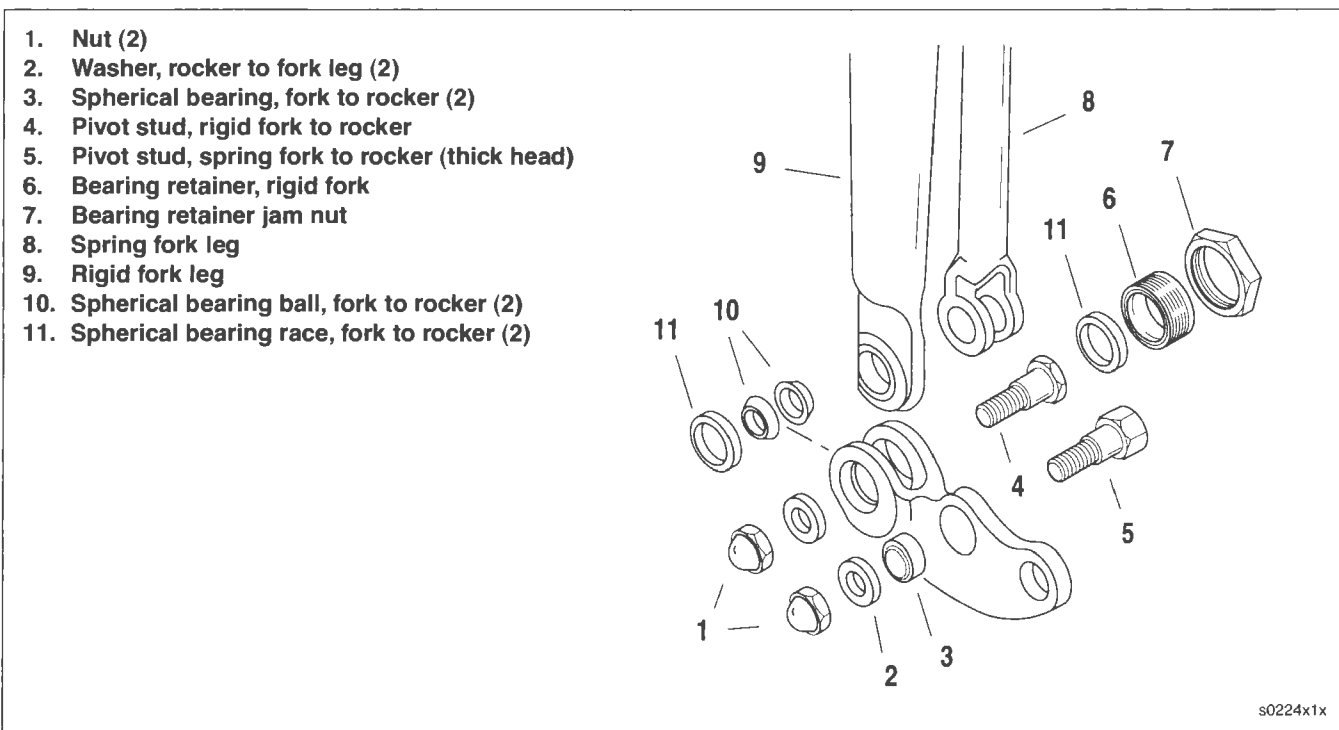

Figure 2-102. Fork Rocker
4. See Figure 2-102. Remove the spring fork rocker pivot studs (5), washers (2) and acorn nuts (1) from rocker.
5. Remove bearing retainer jam nuts (7).
6. Remove bearing retainers (6).
7. Remove acorn nuts (1) from rigid fork pivot studs. Remove rigid fork thin head pivot studs (4) from rockers and rigid fork legs. Remove bearings (10) from thin head pivot studs (4).
2. See Figure 2-102. Grease rocker bearing race with a finger full of grease. Place one bearing half (10) in rocker race, spherical surface against the race.
3. Place other half of bearing on pivot stud (4), spherical surface towards stud head.
6. Install thick washer (2) and acorn nut (1). Use LOCTITE THREADLOCKER 243 (blue) on acorn nut. Tighten nut to 45-50 ft-lbs (61.0-67.8 Nm).
7. Apply LOCTITE ANTI-SEIZE to threads of bearing retainer (6). Apply a finger full of grease on the bearing race. Install bearing retainer. Tighten the retainer to 25-35 **in-lbs** (2.8-4.0 Nm).
8. Secure bearing retainer by installing jam nut (7). Tighten to 95-105 ft-lbs (128.8-142.4 Nm).